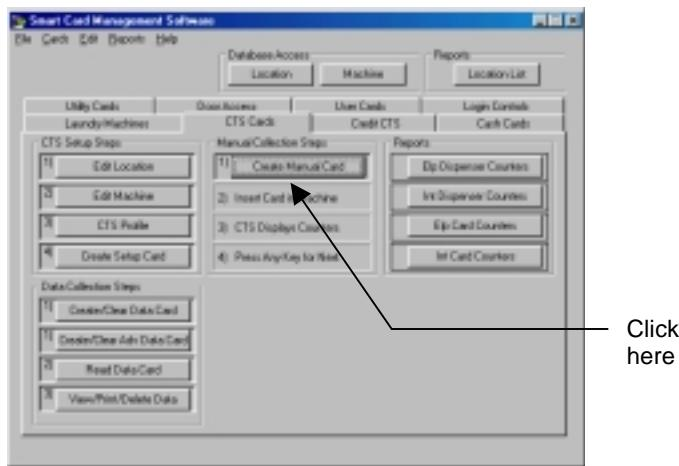

Figure 9.24 Creating a Manual Data Collection Card
2. Click the Create Manual Card button in the CTS Cards Manager (Figure 9.24)